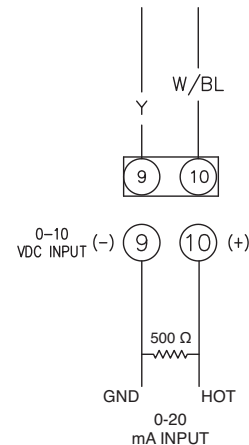

Fig. 13: 500 Ω Resistor for 4-20 mA Operation
**NOTE:** To convert a 0-20 mA input signal to 0-10 VDC, a 500 Ω resistor must be added. See Fig. 13.
A 0-20 mA signal can be converted to a 0-10VDC signal by installing a 500 Ohm resistor in parallel to the input signal on the controller’s terminals (terminals 9 & 10). See Fig. 13 on page 7.